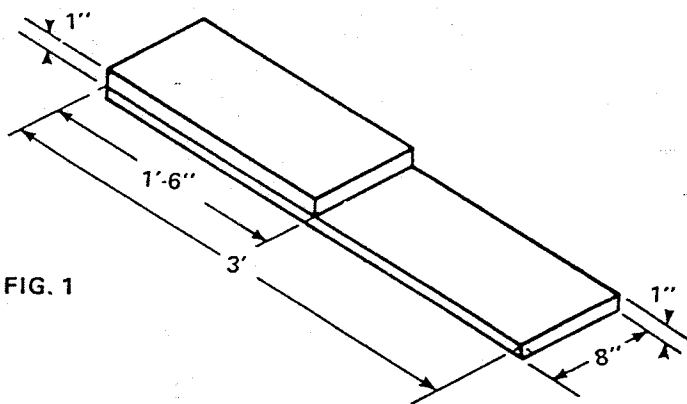

FIG. 1
**SET-UP** — All trailers — water hose and bucket; 16' & 17' Cadet Travel Trailers — carry an additional hose and bucket for gray water septic system; "Y" type water hose fitting; 20' long 3 prong adaptor with grounding wire; wheel chocks; 2 step leveling ramp (FIG. 1).